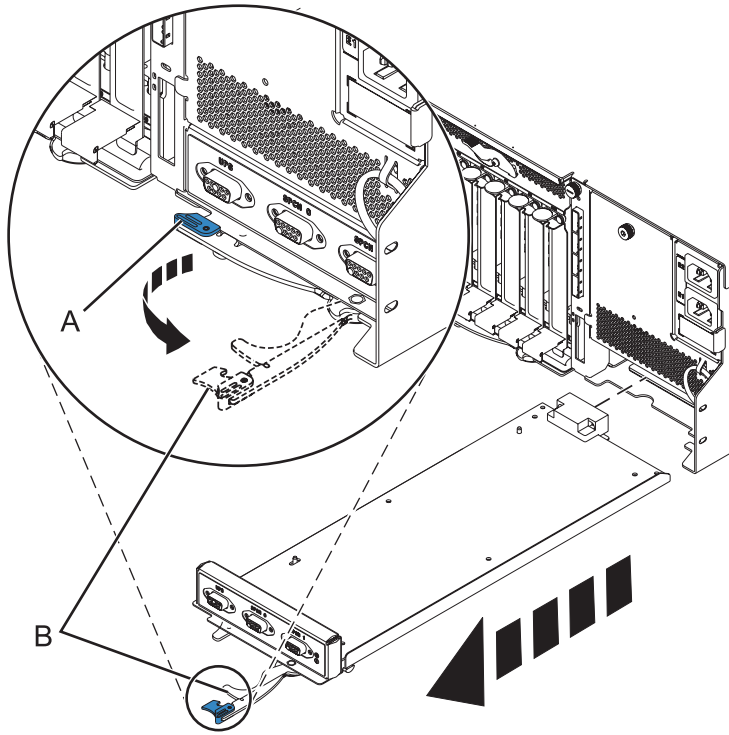

Figure 56. Remove the enclosure management controller
- b. Pinch the latch (A) to unlock the handle (B). See Figure 56 on page 73.